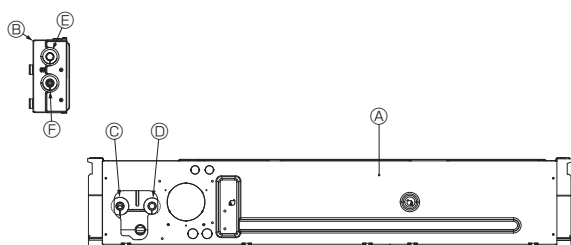

Fig. 4-8
1. Connect outlet pipe ③ of the indoor unit to inlet pipe ⑤ of the VALVE KIT with  $\phi 22$  piping (procured locally). (Fig. 4-8)